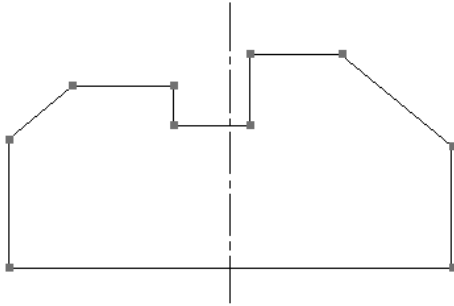

Figure 11-10 Sketch after applying the coincident constraint
10. Draw the selection box such that all entities of the sketch are selected and then press ENTER; the coincident constraint is applied at all intersections of endpoints, as shown in Figure 11-10.